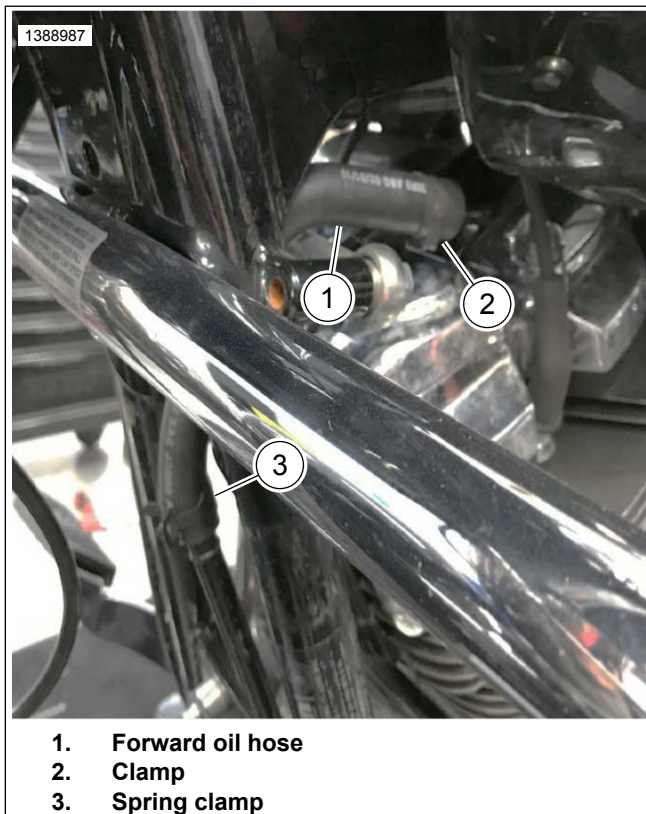

Figure 2-5. Oil Cooler Hose
- See Figure 2-5. Remove spring clamp (3) at front of forward oil hose (1).
4. Remove heat shrink tubing and clamp (2).
11. See Figure 2-5. Install forward oil hose (1) supplied in sidecar kit and secure using new clamp and heat shrink tubing at top (2). Re-use existing clip at bottom (3).